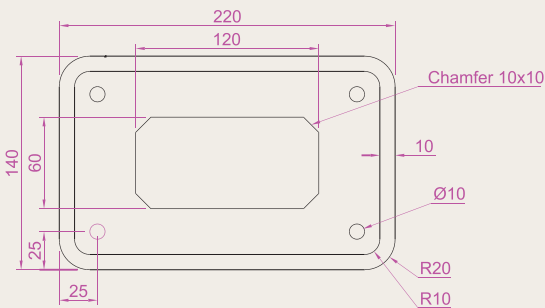

Fig. 6.28 Exercise 2
2. Construct the drawing shown in Fig. 6.28 but in place of the given dimensions add dimensions showing tolerances of 0.25 above and below.